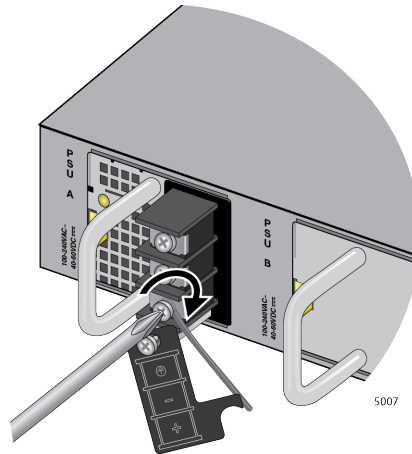

Figure 45. Wrapping the Grounding Wire and Tightening the Screw
5. Wind the grounding wire clockwise around the base of the grounding screw. Refer to Figure 45 on page 93.